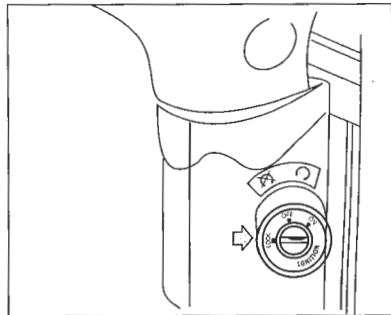

Fig. 15
**Locking the Handlebar:** First turn the handlebar to the extreme left and then turn the key anticlockwise to lock position. Pull out the key after locking (fig. 15).